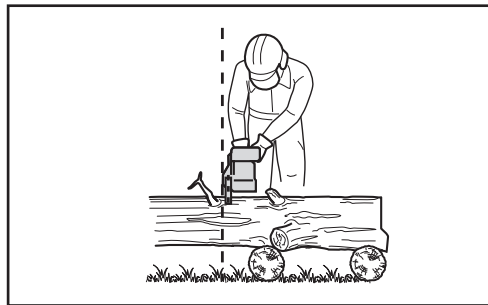

Fig. 18
2. Always hold the product firmly with both hands; front handle (2) with the left hand and rear handle (1) with the right hand. Fully grip both handles at all times during operation. Never operate the product using only one hand.
3. Only use the product with a secure stance. Hold the product at the right-hand side of your body (Fig. 18).